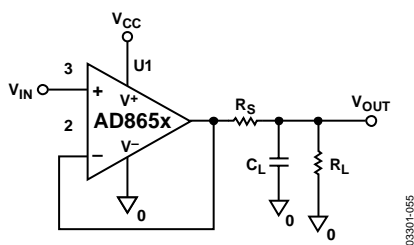

Figure 56. Driving Large Capacitive Loads
- As shown in Figure 56, place a small value resistor ( $R_S$ ) in series with the output to isolate the load capacitor from the amplifier output. Heavy capacitive loads can reduce the phase margin of an amplifier and cause the amplifier response to peak or become unstable. The **AD865x** is able to drive up to 47 pF in a unity gain buffer configuration without oscillation or external compensation. However, if an application requires a higher capacitive load drive when the **AD865x** is in unity gain, the use of external isolation networks can be used. The effect produced by this resistor is to isolate the op amp output from the capacitive load. The required amount of series resistance has been tabulated in Table 5 for different capacitive loads. While this technique improves the overall capacitive load drive for the amplifier, its biggest drawback is that it reduces the output swing of the overall circuit.